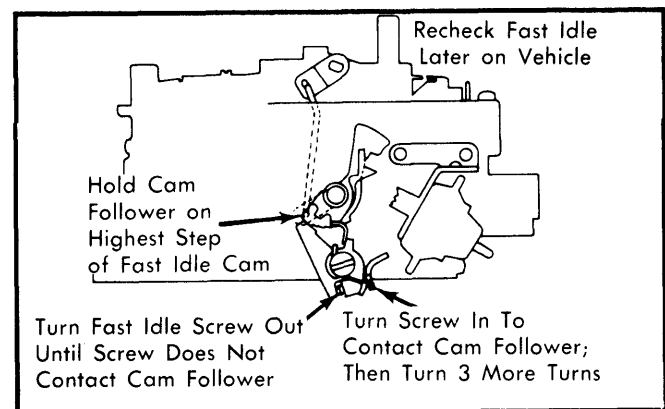

Fig. 5 Fast Idle Bench Adjustment
2) Turn fast idle screw in until it just touches lever. Turn screw in an additional 3 turns. See Fig. 5.